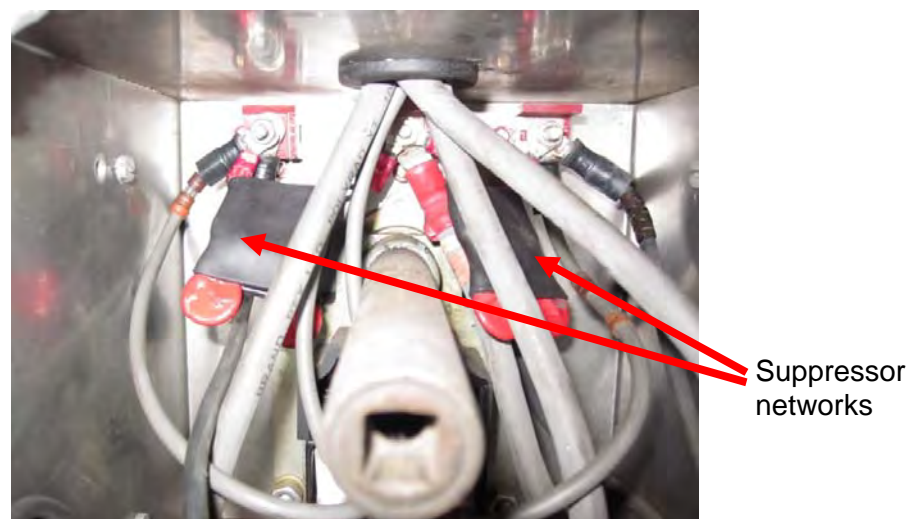

Figure 1: Terminal Connections
5. With the lighting control panel removed, it will be observed that three terminals are present (see Figure 1).
9. Fit the two new suppression networks (see Materials items 1 to 4) in the rear of the box as follows and as shown in Figure 1: